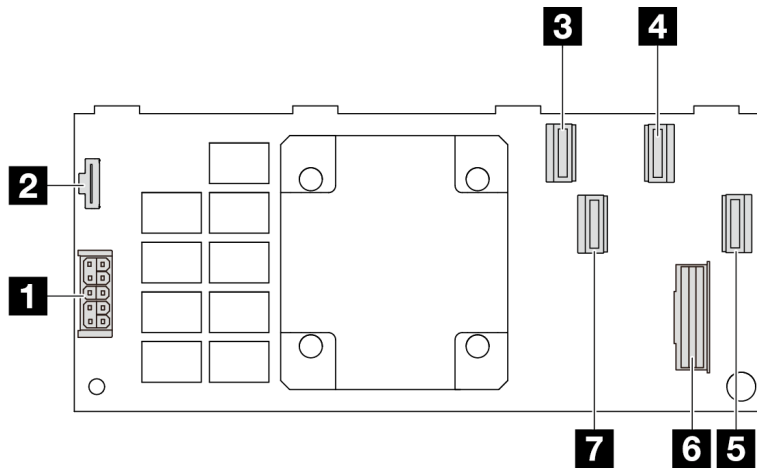

Figure 287. A Gen 4 16i CFF RAID adapter (four port connectors)
- Figure 287 “A Gen 4 16i CFF RAID adapter (four port connectors)” on page 317